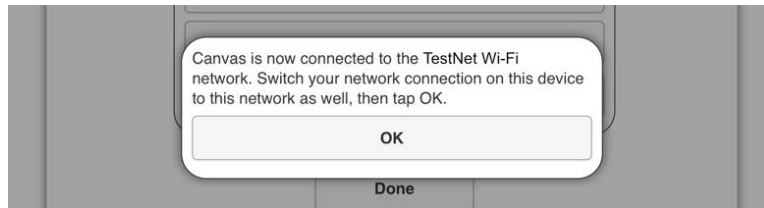
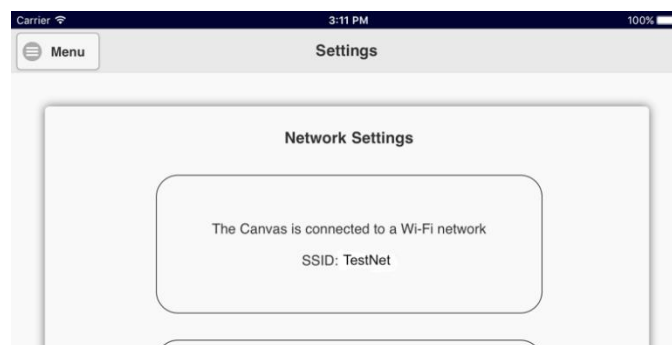

Figure 5-37: Switch Network Request
Figure 5-39: Network Settings Page after Successful Network Change
4. Type in the passphrase for the network and tap *OK*. The DigitalCanvas will then attempt to connect to the TestNet Wi-Fi network. If it is successful, it will bring up a dialog box asking you to switch the network connection of the “this device” (i.e., the iPad, tablet, or PC that the LellanApp is running on) to the same TestNet network (Figure 5-37).
6. Once you return to the DigitalCanvas controller app, tap “OK” to dialog box asking you to switch networks (Figure 5-37). This should finalize the network switch and return you to the *Network Settings* page, with the status box showing that the DigitalCanvas is now connected to the TestNet Wi-Fi network (see Figure 5-39).